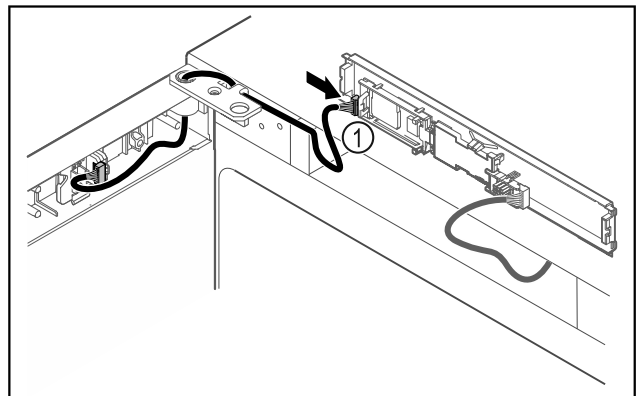

Fig. 50
- Connect the plug Fig. 50 (1) to the circuit board.